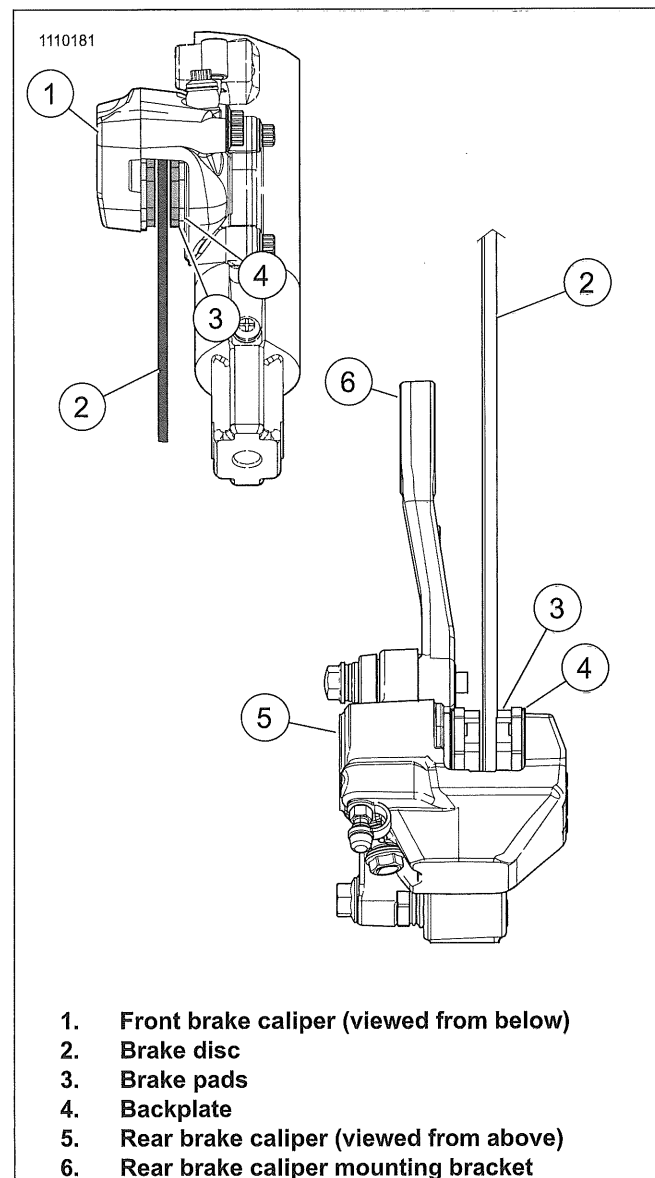

Figure 2-17. Brake Pad Inspection
See Figure 2-17. Replace brake pads (3) if friction material is at or below 0.04 in (1.02 mm) above the backplate (4). Always replace both pads in a caliper as a set. See INSPECT BRAKES (Page 2-18).